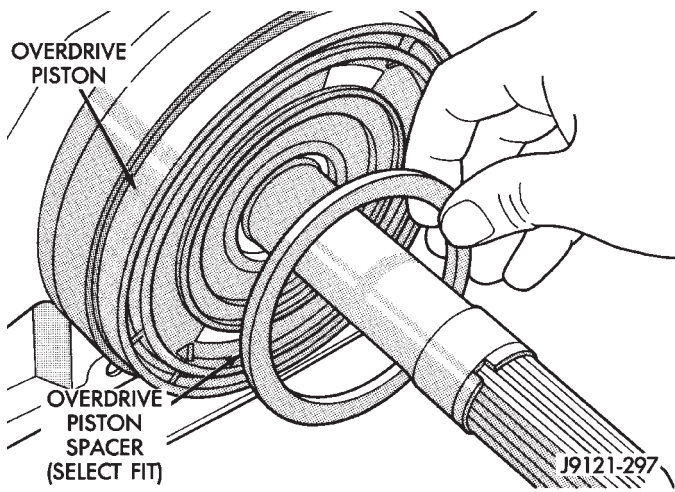

Fig. 194 Overdrive Piston Thrust Plate Removal/Installation
- (1) Remove overdrive piston thrust plate (Fig. 194). Retain thrust plate. It is a select fit part and may possibly be reused.